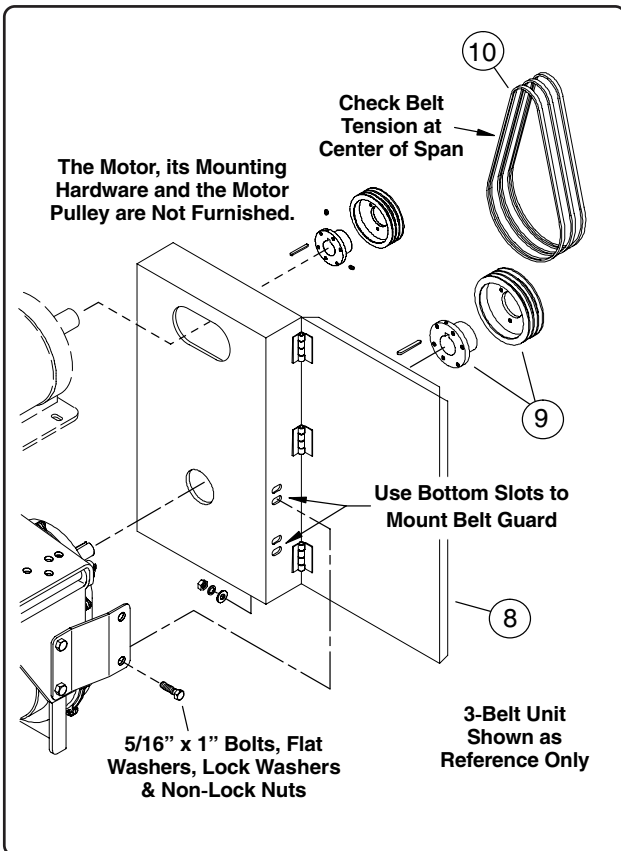

Fig. 14
- Secure the belt guard (Ref. 8) to the guard brackets using four 5/16" x 1" bolts, flat washers, lock washers and non-lock nuts (the guard has two pairs of slots, an upper and lower, use the bottom slot in each pair, See Fig. 14).
- Install the 30.5 cm O.D. (12" OD) sheave (Ref. 9) onto the reducer gearbox input shaft using the QD type hub with key (See Fig. 14).